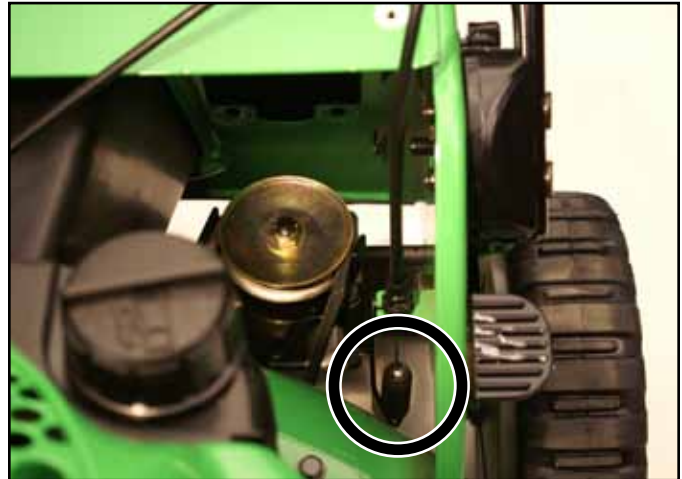

Fig 101
14. Unhook the traction cable from the transmission belt guide (Fig. 101 and Fig. 102).